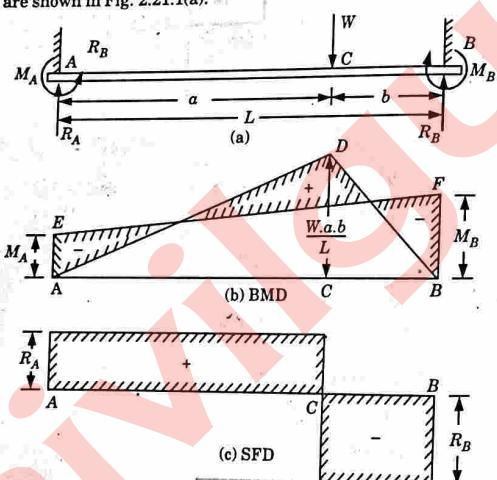

Fig. 2.21.1.
Fig. 2.21.1(a) shows a fixed beam AB of length L , carrying a point load W at C at a distance of ' a ' from A and at a distance of ' b ' from B . The fixed end moments M_A and M_B and also reactions at A and B i.e., R_A and R_B are shown in Fig. 2.21.1(a).
- As the load is not acting symmetrically, therefore M_A and M_B will be different. In this case M_B will be more than M_A as the load is nearer to point B . The BM diagram due to end moments will be trapezium as shown in Fig. 2.21.1(b) by $AEFB$. Here the length AE (i.e., M_A) and BF (i.e., M_B) are unknown.
to $\frac{Wab}{L}$. The BM diagram for this case is shown in Fig. 2.21.1(b) by a triangle ADB in which $CD = \frac{Wab}{L}$.